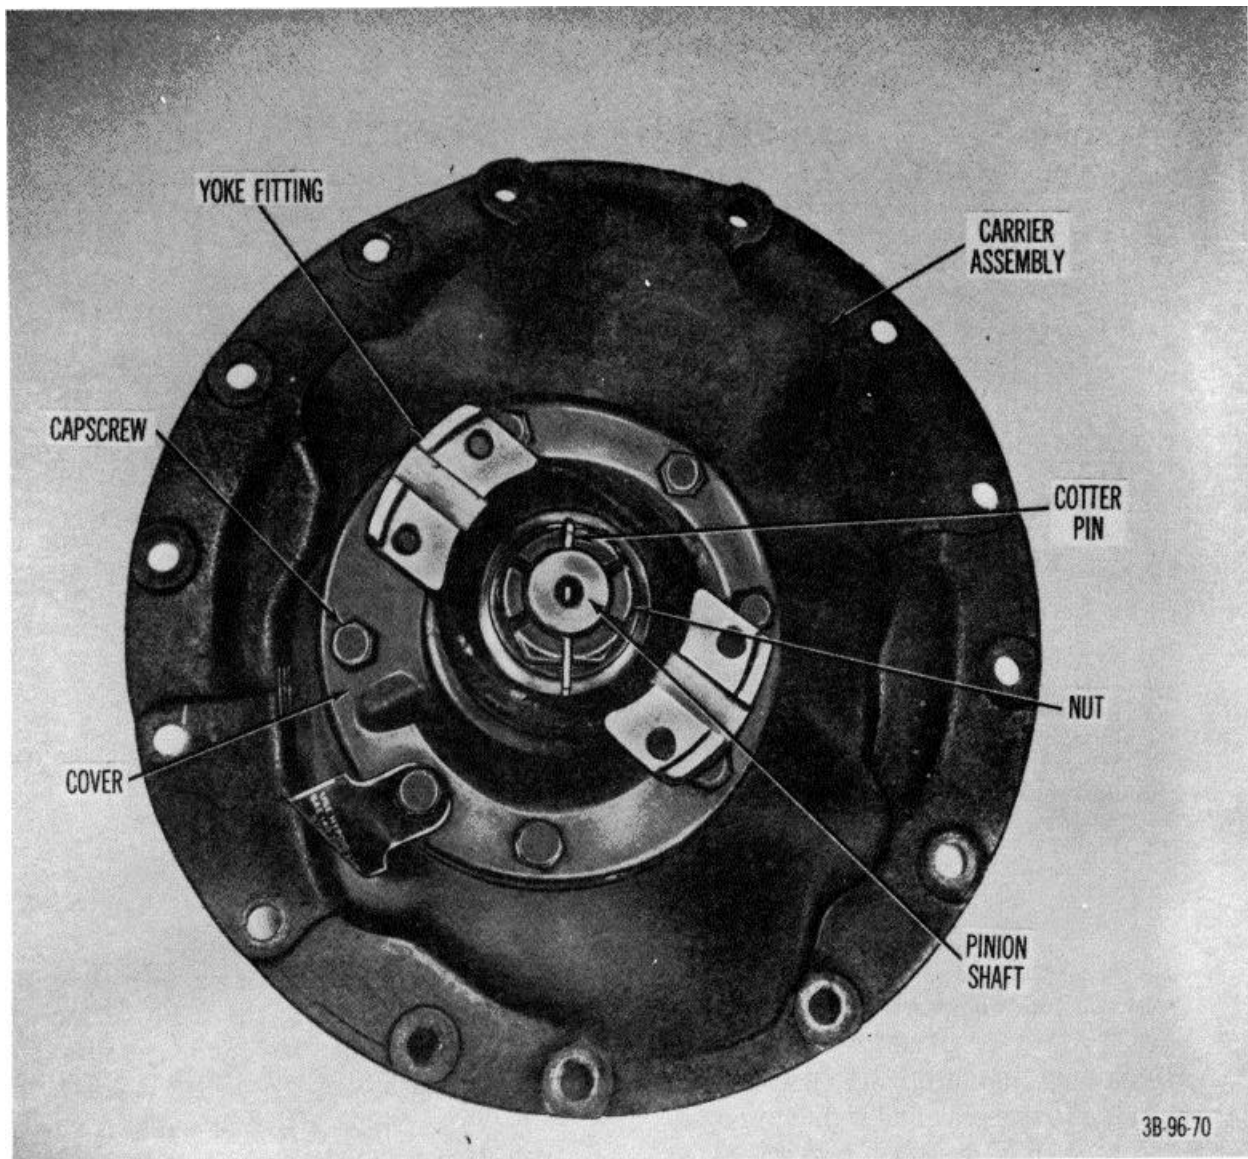

Figure 82. Carrier assembly showing yoke fitting and pinion shaft.
- (7) Remove spider (7), side gears (6 and 10), and thrust washers (5 and 11) from differential case.
- (8) Remove thrust washers (9) and pinion spiders (8) from spider (7).
- (9) Using suitable puller, remove bearing cones (2 and 13) from differential case.
- (10) If the ring gear (12) is to be replaced, remove rivets (15) by carefully center punching the rivets in the center of the head. Use a drill 1/2 inch smaller than body of rivet and drill through head. Press out rivets after drilling.
- (11) Refer to figure 82 and remove cotter pin, nut and washer from pinion shaft and remove yoke fitting from pinion.
- (12) Remove screws that secure cover to carrier and remove cover.